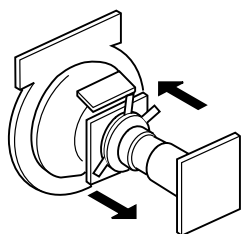
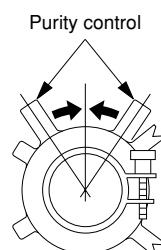

Figure 2-1
Figure 2-1-1
3. Move the deflection yoke to the rear and adjust with the purity control so that the green is at the centre and the blue and red take up equally sized areas on each side of the screen. (see figure 2-1 and figure 2-1-1)